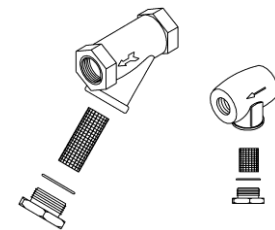

Fig. 3-1 Water Strainer Assembly
2. Unscrew the filter cap from the bottom of the strainer. Refer to Figure 3-1, which shows the various strainers supplied with the different steamers.